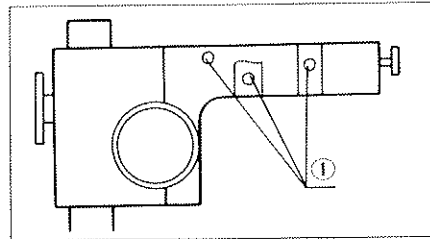

Fig. 6
- (1) The illuminator (LSGA) can be mounted at any of the five mounting ports on the circumference of the arm, using the LSGA mounting holder IHA or IHD. (Fig. 6)